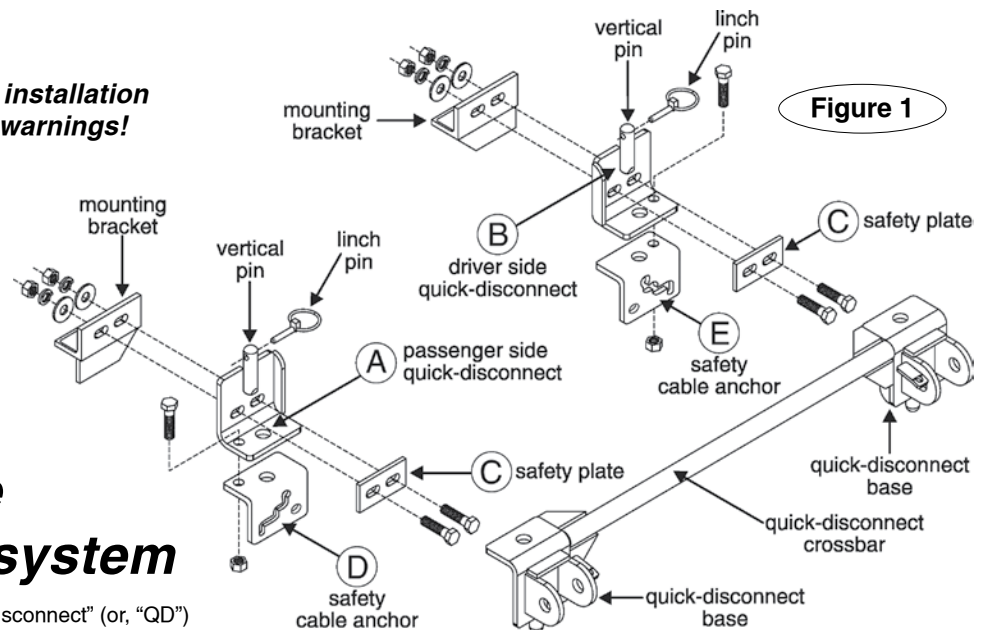

Figure 1
1. First, attach the quick-disconnects ("QDs," parts "A" and "B" in Figure 1) to the tow bar mounting brackets. Attach the QDs so that the vertical pin on each is pointing up, as shown in Figure 1.
Attach part "A" on the passenger side, and part "B" on the driver's side. Use the supplied ½" x 1½" bolts, the two safety plates (parts "C"), and the flat washers, lock washers and nuts, as shown in Figure 1.
Both QDs have cable anchors – parts "D" and "E" in Figure 1 – designed for safety cable attachment. Bolt cable anchor "D" to part "A," and cable anchor "E" to part "B," using the supplied ½" x 1" bolts and nuts.